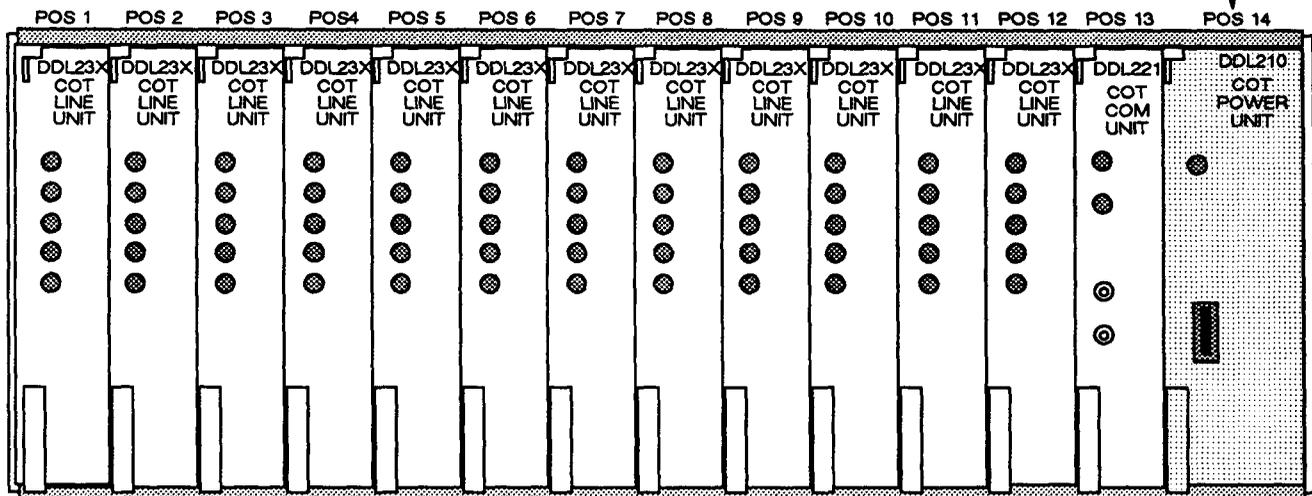

Figure 3. Typical DDL210 COT Power Unit Mounting Position (Front View)
1.02 Issue 3 was released to change the idle voltage to +50V and -80V. These voltages are within the A2 limits. The third printing of this practice was issued to add DDL-002-100 to Paragraphs 1.03 and 9.01 and to modify Figure 3.
Plus Central Office Terminal shelf. Refer to Figure 3 for proper shelf position.